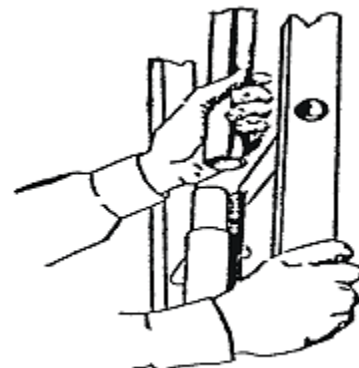

FIGURE 3A
g. RAISE THE SECOND SECTION to be installed and with the bottom bolts removed, slip it over the internal alignment guide, See figure 3A.